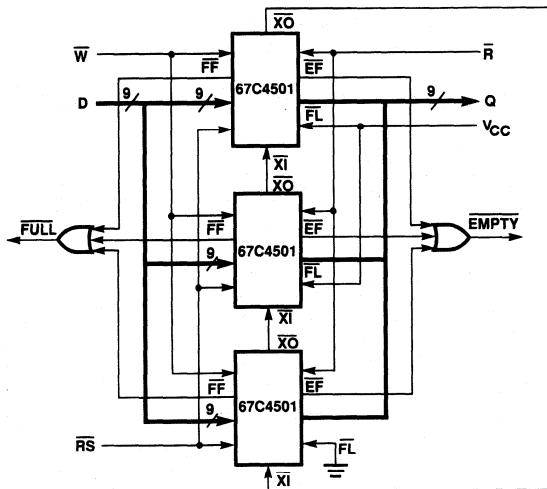

Figure 12. Depth-Expansion to Form a 1536x9 FIFO
1. \overline{XI} is connected to $\overline{X0}$ of previous device. See Figure 12.
Depth-Expansion Mode is configured during the Reset cycle. (See Figure 12 and Table 2.) Expansion Out (\overline{XO}) of one device must be connected to Expansion In (\overline{XI}) of the next device, with \overline{XO} of the last device being connected to \overline{XI} of the first device. The device that is to receive data first has its First Load (\overline{FL}) input tied LOW, while all other devices must have this input HIGH. Write and read control is passed between devices using \overline{XO} and \overline{XI} . A LOW-going pulse on \overline{XO} occurs when the last physical location, address 511, of an active device is written to, and another LOW-going pulse occurs when the last physical location of an active device is read. Only one device is enabled for writes, and only one device is enabled for reads at any given time.